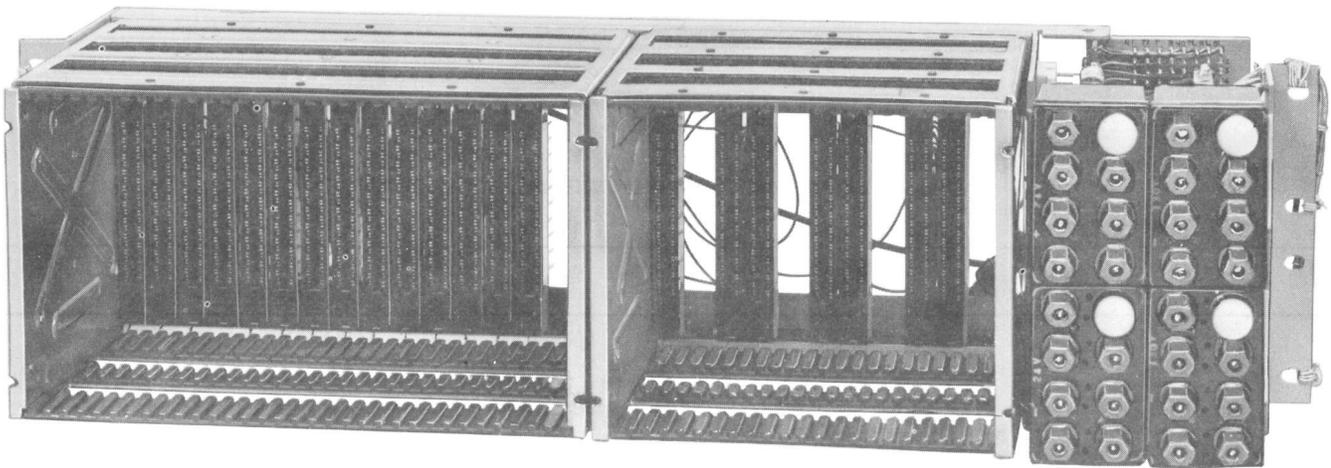

Fig. 3—J70165 Mounting Panel
2.01 The DAS 811K is a printed circuit board that is designed to mount in a J70165G mounting (refer to Fig. 3).